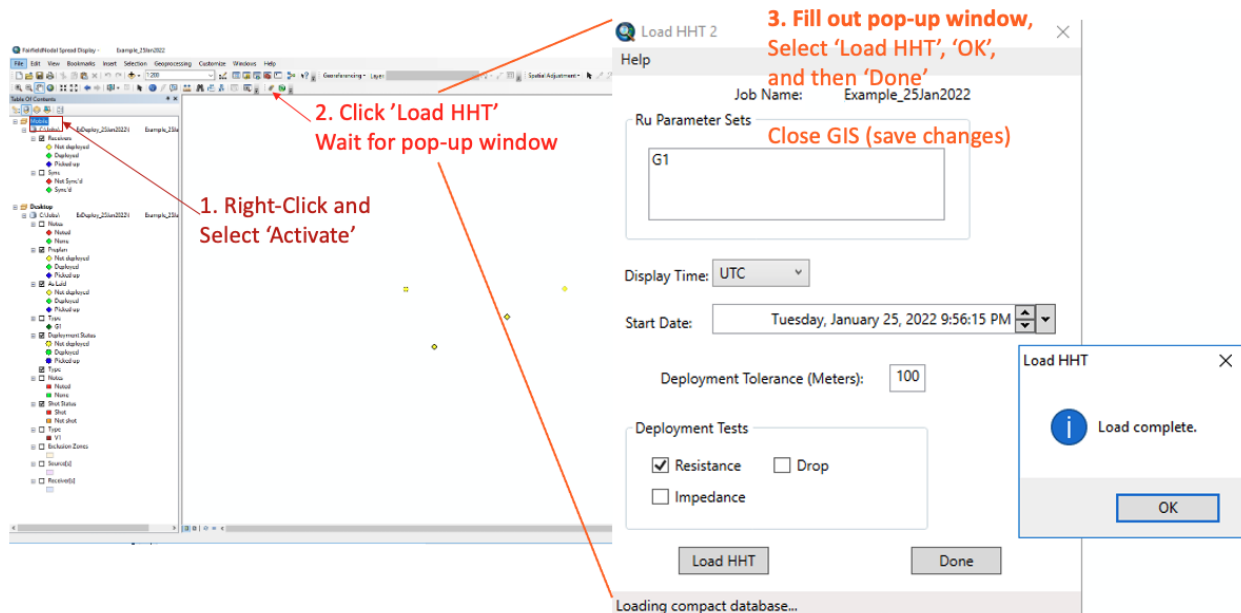

Figure 2-17 Map Settings to Activate and Load the preplanned deployment information to the HHT.
Right Click on 'Mobile' in top *left* corner in the Layers tab and select 'Activate.' See Step 1 in Figure 2-17.
See Step 2 in Figure 2-17 for reference of this button's location. Loading the pop-up menu after selecting the 'Load HHT' button will take a while but be patient.
- 5.2 From the pop-up Load HHT menu (see Figure 2-17):
5.3 Select *Load HHT* to finalize these settings onto the HHT (see Fig 2-17).